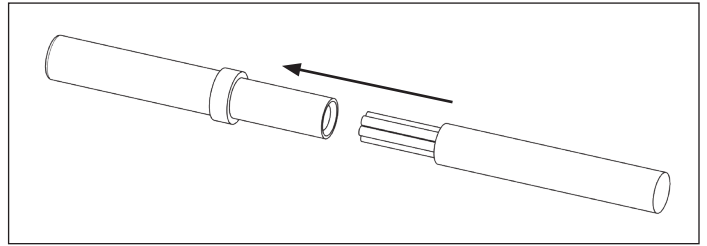

Figure 4 - Stripping the Wires and Crimping the Terminals
- Strip the cut wires. Using a suitable crimping tool, crimp the provided terminals to the stripped wires. See Figure 4.